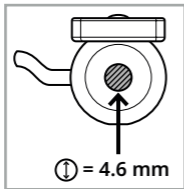

Figure 1 - Instrument Clamp
- The Instrument Clamp Electromagnetic Sphere (Figure 1) is optimised for tracking instruments with a cross-section between 2.0 mm and 4.6 mm in diameter (inclusive).